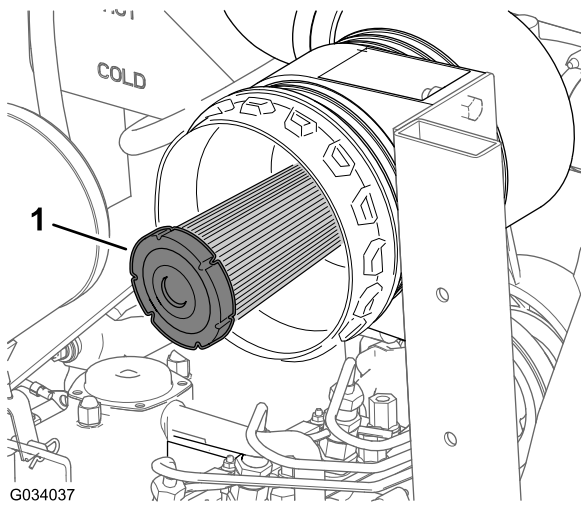

Figure 49
2. Check the air-cleaner safety filter for dust and debris (Figure 49).
Important: Never attempt to clean the safety filter (Figure 49). Replace the safety filter after every 3 primary filter services.